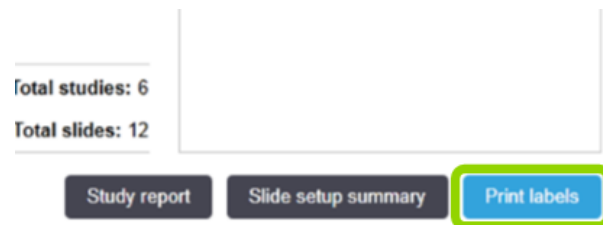

Figure 43: Print labels button
8. Click **Print Labels** (see Figure 43).